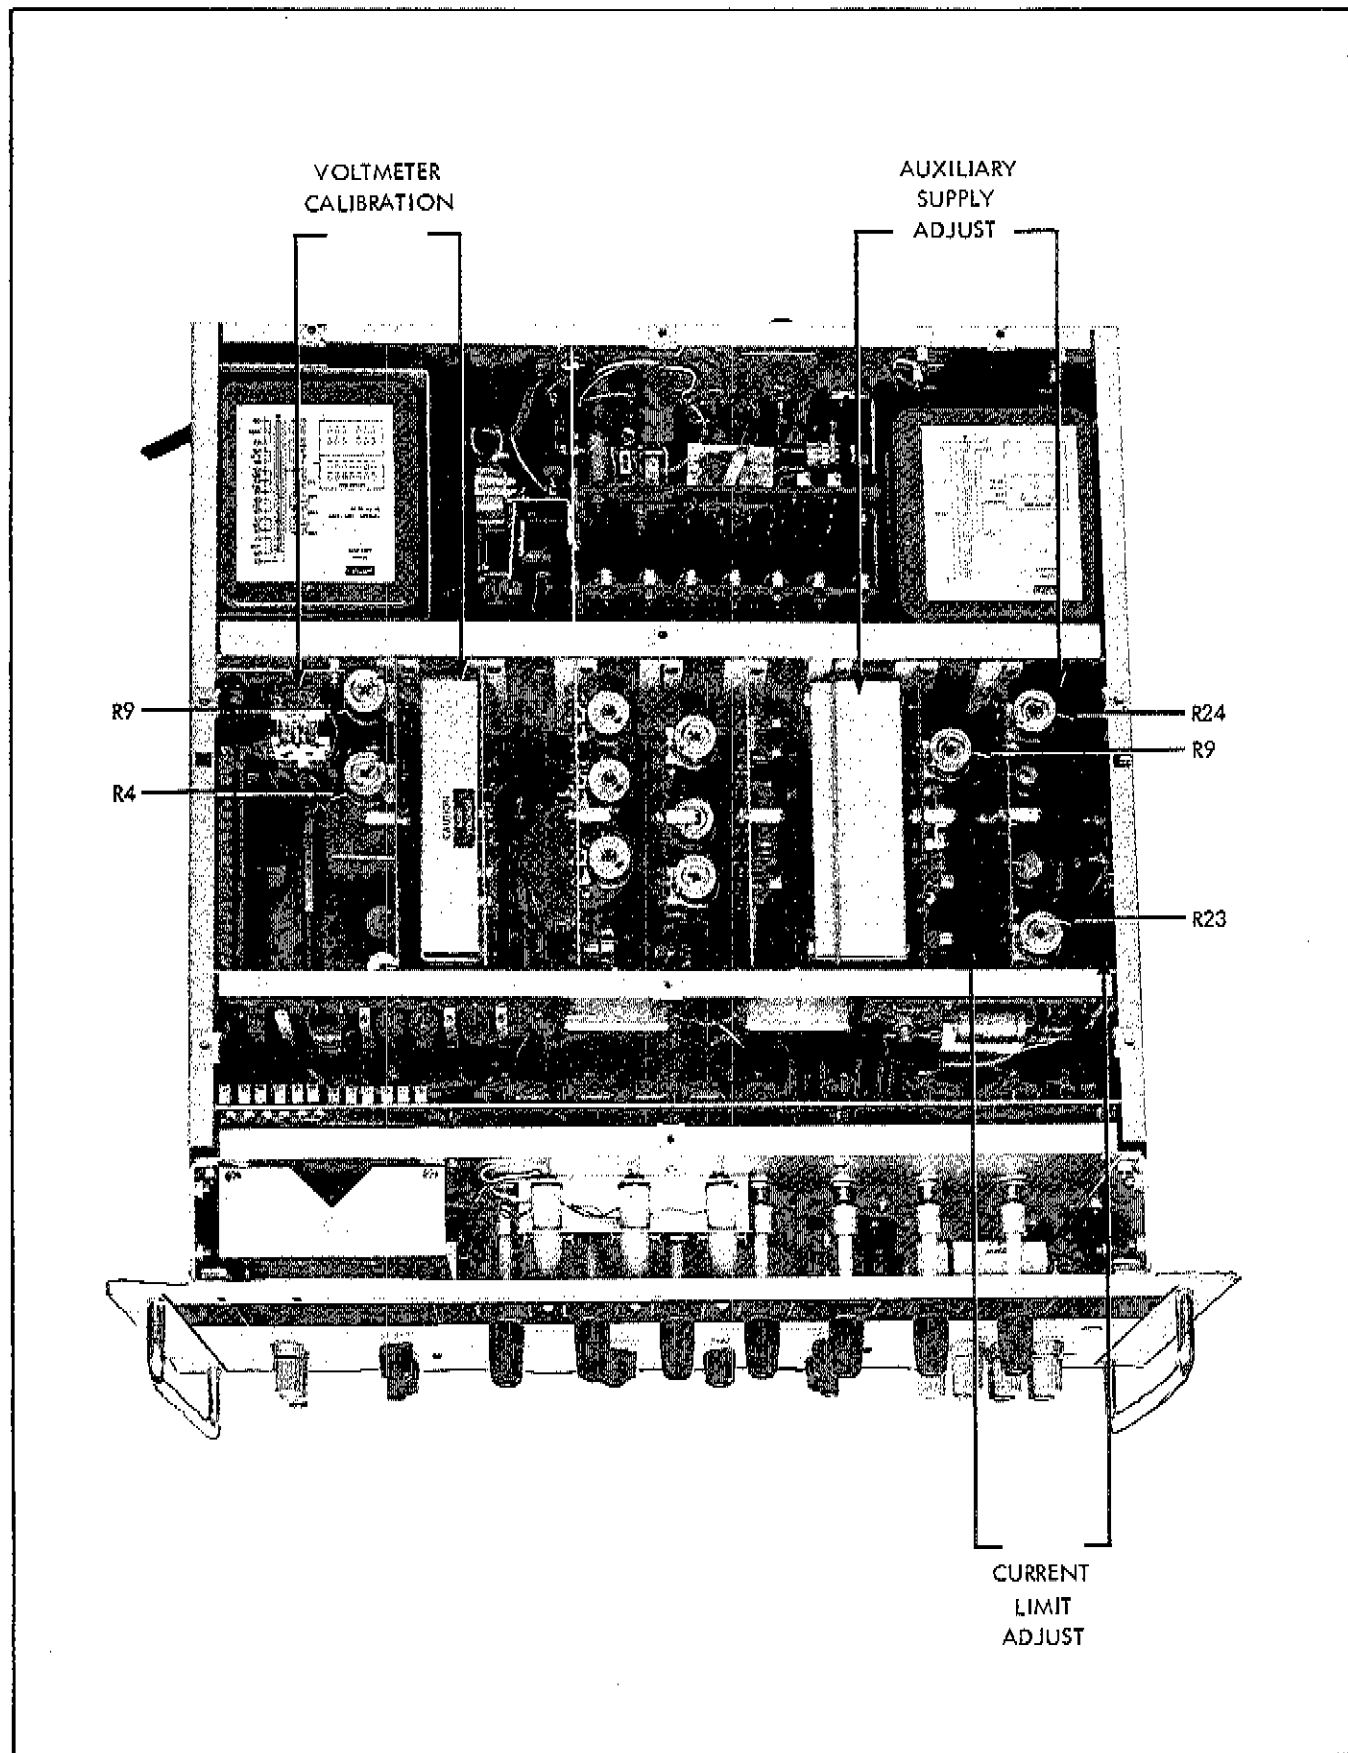

Figure 4-8. LOCATION OF ADJUSTMENTS
- c. Refer to Figure 4-8 and adjust R4 until the period of the square wave is 11.9 milliseconds.
- c. Refer to Figure 4-8 and adjust R9 for a full scale meter deflection (1.0) $\pm 1/2$ a small division.
- b. Referring to Figure 4-8, adjust R9 until the Model 885A indicates 25 volts, ± 10 millivolts.
- c. Referring to Figure 4-8, adjust R23 for a 60 milliamper indication on the external meter.
- d. Rotate the CURRENT LIMIT control maximum counter-clockwise. Referring to Figure 4-8, adjust R24 for a 2 milliamper indication on the external meter.